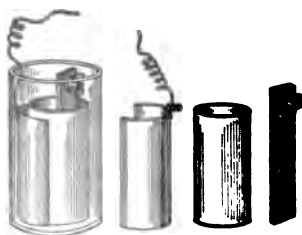

FIG. 224.—The Daniell cell.
**251. The Daniell Cell.**—This cell is often used in laboratories, and on closed circuits such as those connected with fire and burglar alarms and telegraph lines. It has two plates of zinc and copper placed in two different liquids which are kept separated by a porous clay cup (Fig. 224). The zinc rod is kept in a solution of zinc sulphate contained in the porous cup. The copper plate is in a solution of copper sulphate filling the rest of the glass jar. Unlike the Leclanché cell, this one must be kept upon a *closed circuit* to do its best work, as the two liquids mix when the circuit is open. Taking its qualities in order, (a) its E.M.F. is about one volt, (b) it has no polarization since copper instead of hydrogen is deposited upon the copper plate. Therefore a uniform E.M.F. may be obtained from it, making it especially useful in laboratory experiments and tests. (c) Its resistance is considerable and (d) it is more expensive to operate than the Leclanché. It is sometimes used upon closed circuits outside of laboratories